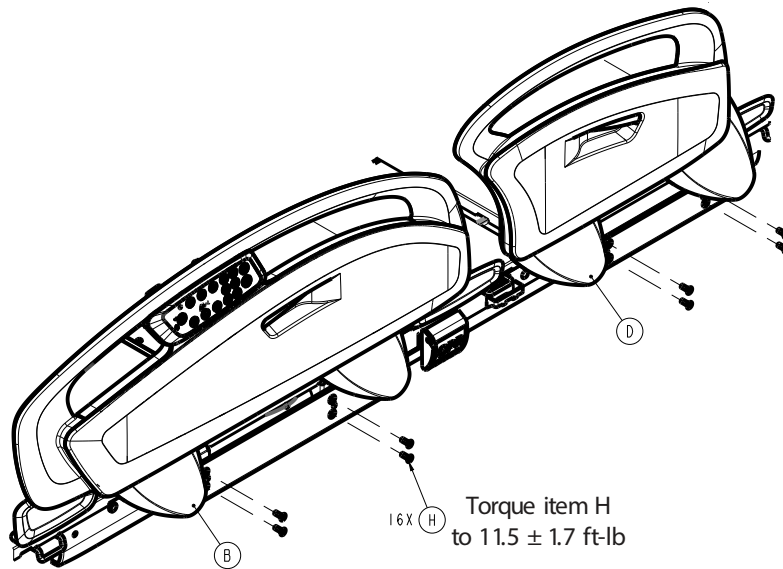

Figure 64 – Removing the assembly
10. Using a T30 Torx driver, loosen the four screws (H) that secure the siderail assembly to the litter frame (Figure 64).